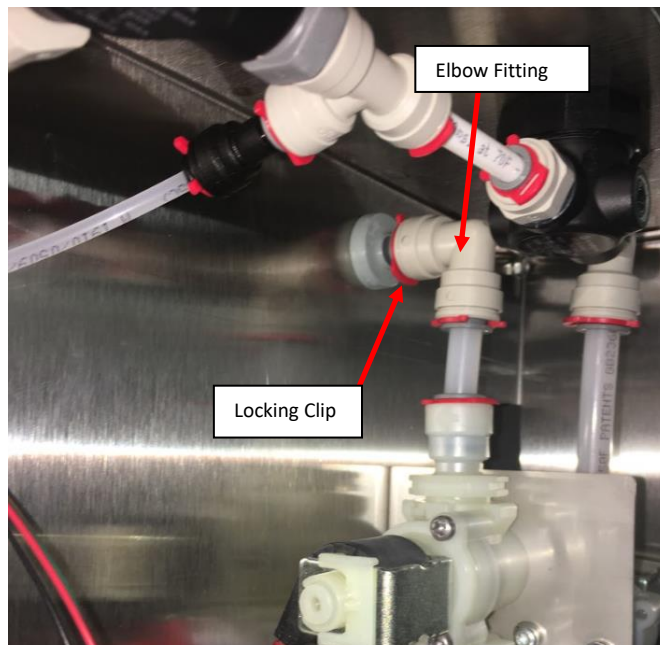

Figure L26: Elbow on Solenoid/Flowmeter Assembly inserted into Barrier Tube on the Right of Enclosure with Locking Clip installed.
24. Turn the Solenoid Sub Assembly so that the Elbow attached to the subassembly is aligned with the Barrier Tubing protruding from the Sealing Gray Grommet on the right and push the Elbow firmly to insert the tube into the Elbow and install Locking Clip. **See Figure L26.**